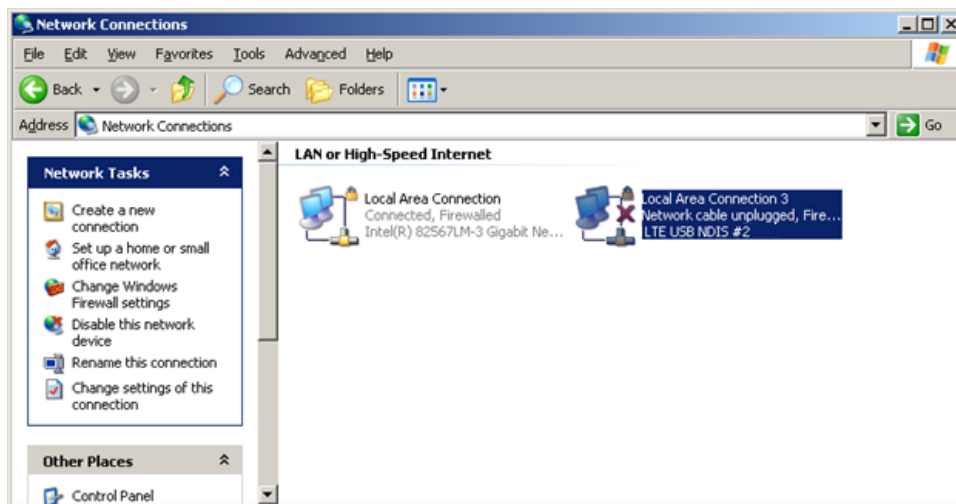

Figure 3-10: Network Connections Window
- From the Control Panel, select **Network Connections** and locate the UE Local Area Connection, as shown in Figure 3-10.